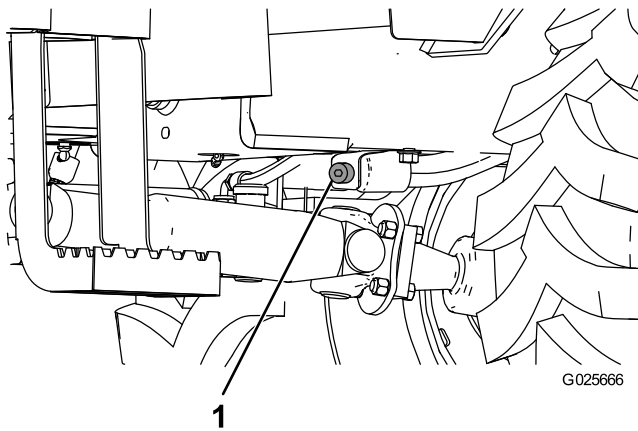

Figure 28
3. Remove the filler cap and the drain plug (Figure 28).